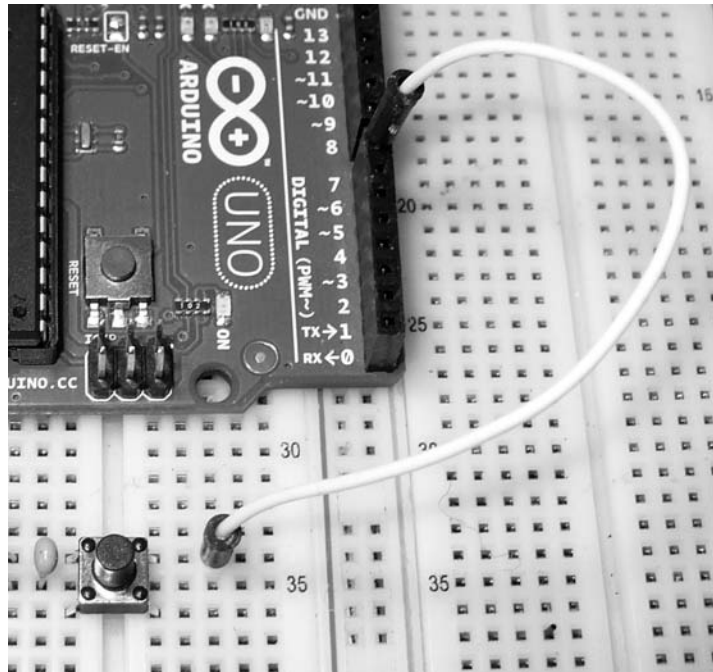

Figure 4-23: Connecting the button to the digital input
4. Run a wire from Arduino digital pin 7 to the breadboard near the top-right corner of the button, as shown in Figure 4-23.